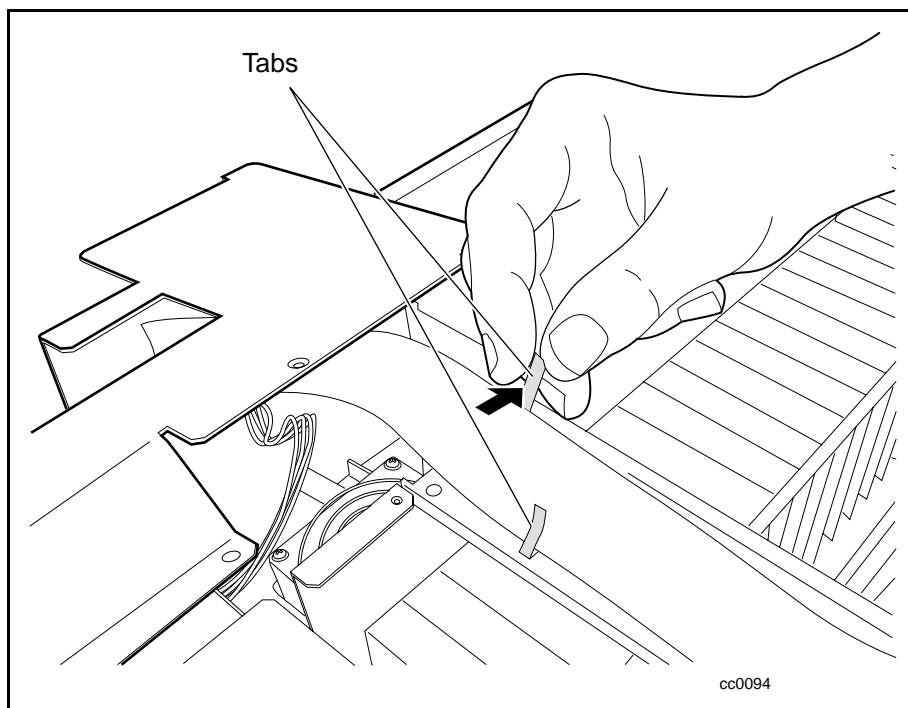

Figure 5-24. Picker ribbon cable tabs
6. Bend the tabs back that hold the picker ribbon cable in place (see Figure 5-24).